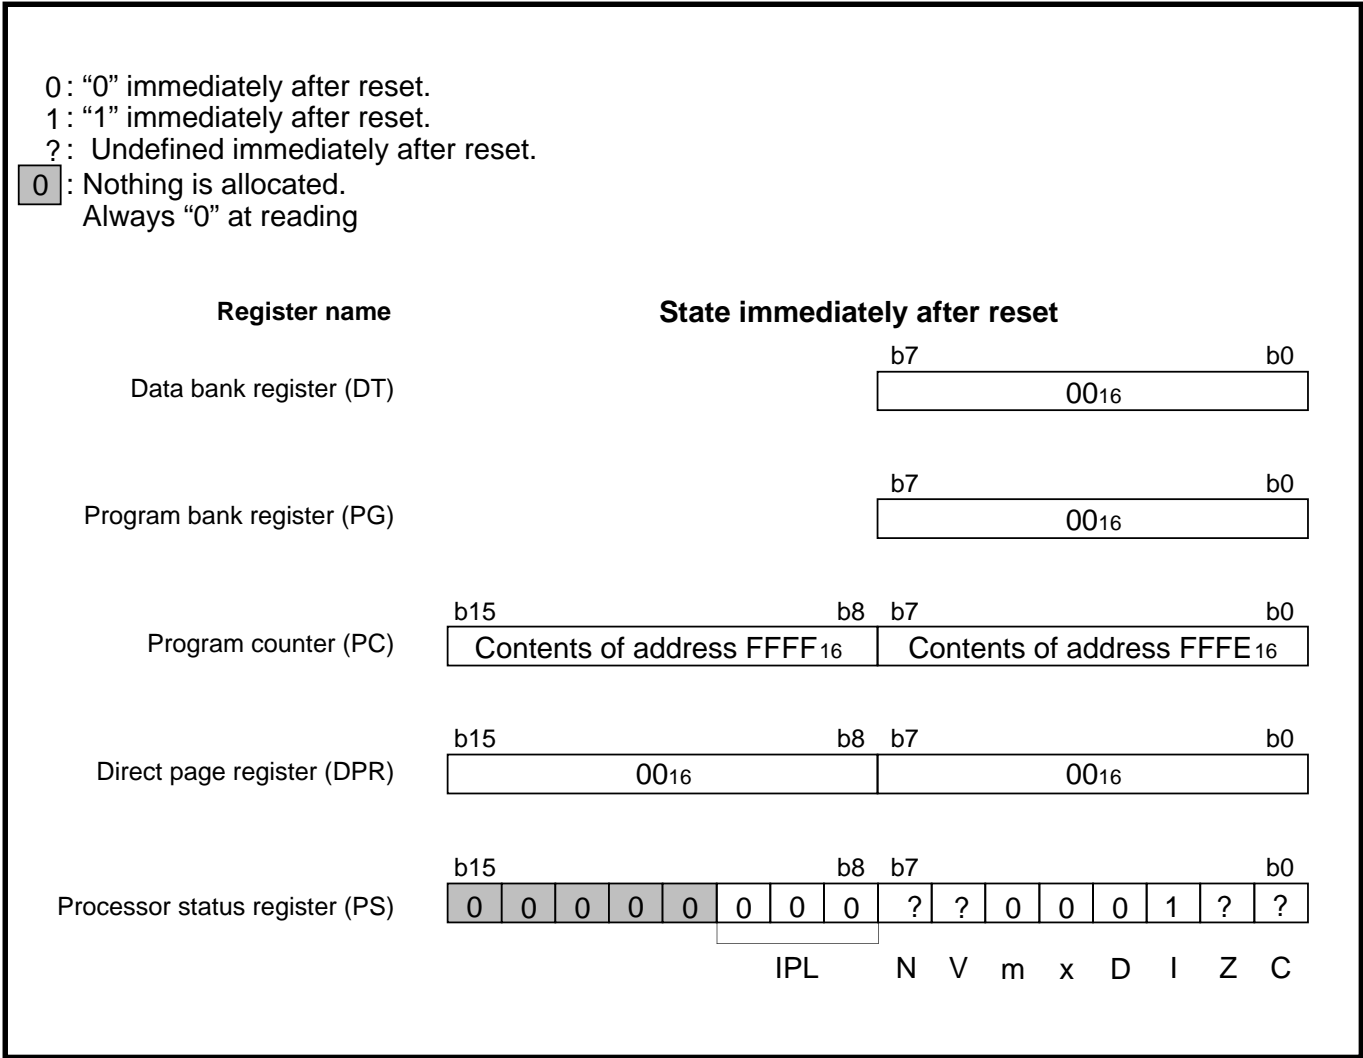

Fig. 13.1.2 State of CPU registers immediately after reset
- ① After “L” level is applied to pin $\overline{\text{RESET}}$, pins are initialized within a period of several ten ns. (Refer to **Table 13.1.1.**)
- ② While pin $\overline{\text{RESET}}$ is at “L” level or within a period of 4 to 5 cycles of internal clock ϕ after pin $\overline{\text{RESET}}$'s level changes from “L” to “H,” the central processing unit (CPU) and SFR area are initialized. At this time, the contents of the internal RAM area is undefined (except the cases where the stop or wait mode is terminated.). Refer to **Figures 13.1.2 to 13.1.6.**
Figure 13.1.2 shows the state of the CPU registers immediately after reset. Figures 13.1.3 to 13.1.6 show the state of the SFR area and internal RAM area immediately after reset.